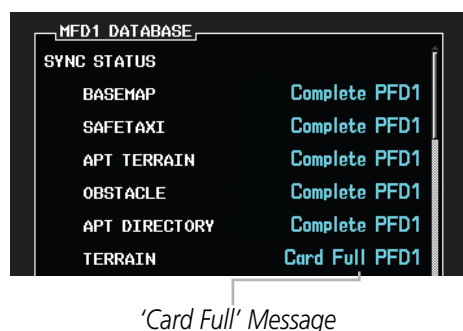

Figure B-4 Synchronization Error Message
The synchronization progress may be monitored on the AUX-System Status Page in the Sync Status section of the Database Window (Figure B-4). This window shows the synchronization status of each applicable database, including the percent complete, time remaining, and to which displays the databases are being copied. The Sync Status section is only present when synchronization is occurring or has occurred on the current power-up. When the synchronization is complete, the status is listed as 'Complete', followed by the displays to which the databases were copied. The database cycle numbers should be checked for each database on each display after synchronization to verify the display contains the proper database version.
If an error occurs during synchronization, an error message will be displayed, followed by the affected display in the Sync Status section of the Database Window (Figure B-4). If synchronization completes on one display, but an error occurs on another, the error message will be displayed with the affected displays listed after it. When an error message (Table B-1) is displayed, the problem must be corrected before synchronization can be completed. A power cycle is required to restart synchronization when 'Card Full' or 'Err' is shown.
- 9) Monitor the Sync Status in the Database Window. Wait for all databases to complete syncing, indicated by 'Complete' being displayed as seen in Figure B-4.